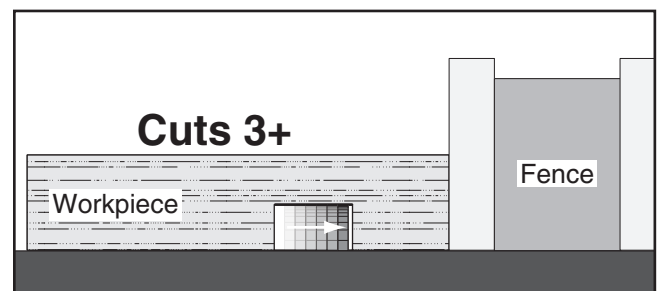

Figure 99. Additional single blade dado cuts.
9. Make additional cuts (see **Figure 99**) in the center of the dado to clear out the necessary material. The dado is complete when the channel is completely cleared out.